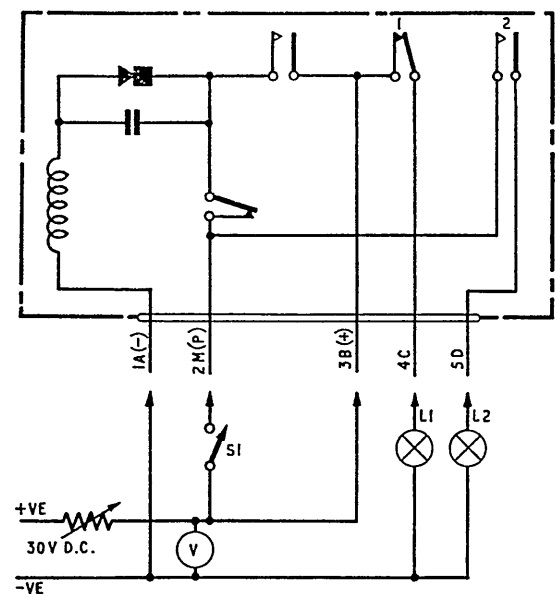

Fig. 1. Switch, Type D8471, circuit diagram and test circuit
1. This time delay switch has three pairs of circuit contacts, the circuit diagram (fig. 1) shows the switch internal wiring and the associated test circuit. The total motor run and circuit contact timing is detailed in para. 3.